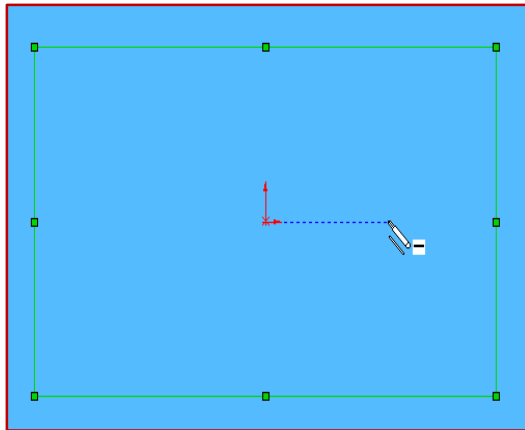

Figure 3.1 – Example of *Inferencing*
- ✓ One example of **Inferencing** is the dashed line that appears when the cursor is aligned with the origin in Figure 3.1.